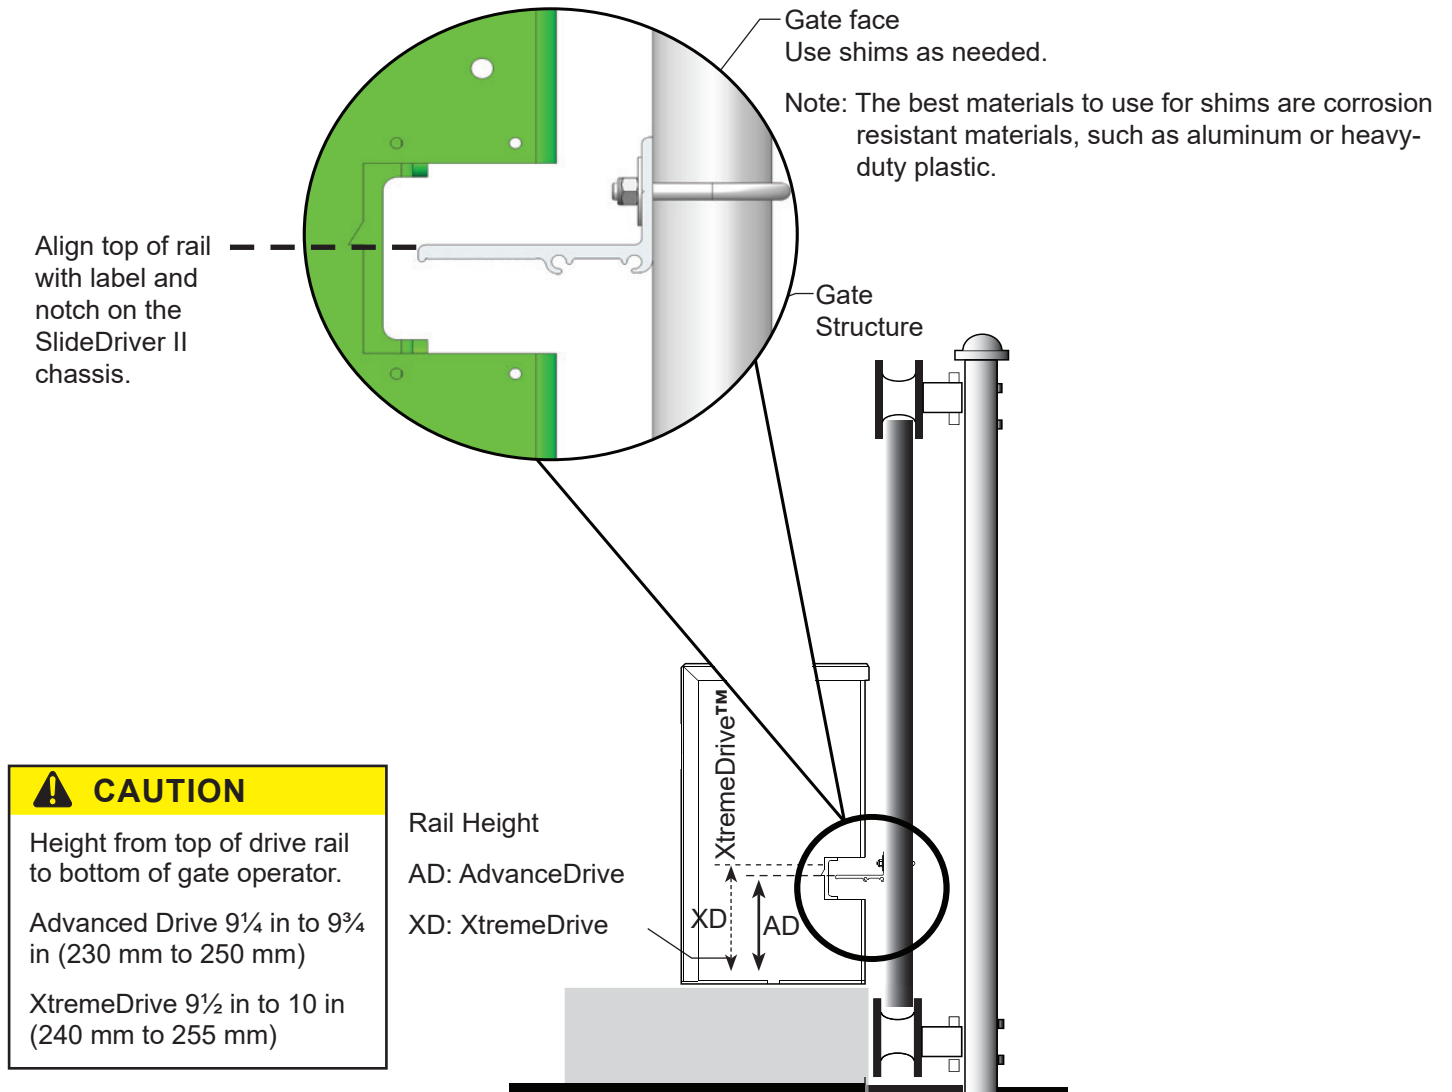

Figure 6. Set Drive Rail Depth and Height
6. Align the top of the drive rail with the notch on each side of the operator's chassis. If necessary, loosen the clamps and move the drive rail up or down along the length of the gate (Figure 6). Manually move the gate and repeat this step at each gate upright.